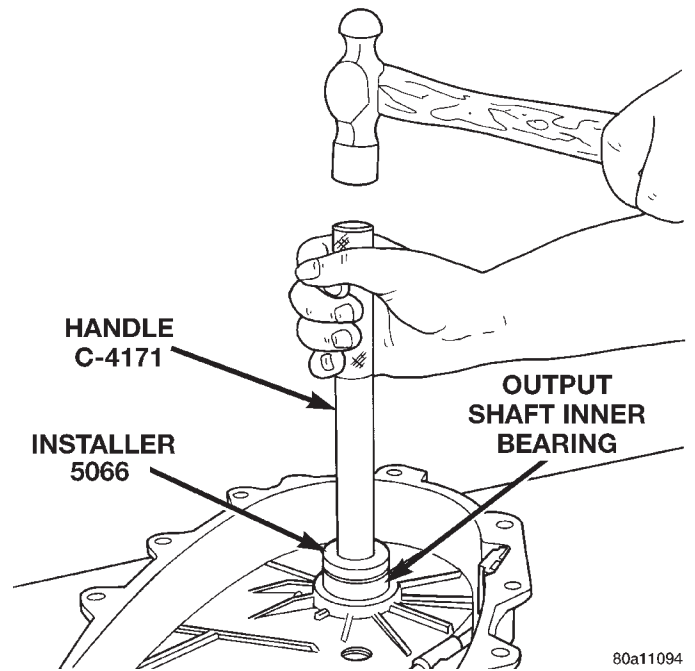
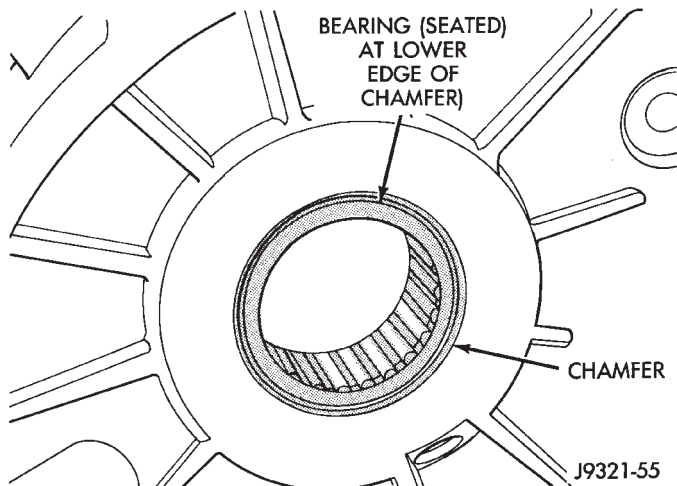

Fig. 47 Output Shaft Rear Bearing Installation
Fig. 48 Output Shaft Rear Bearing Installation Depth
(8) Install new bearing with Tool Handle C-4171 and Installer 5066 (Fig. 47). The bearing bore is chamfered at the top. Install the bearing so it is flush with the lower edge of this chamfer (Fig. 48).